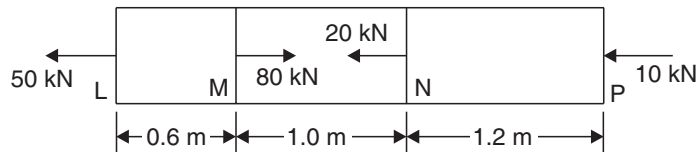
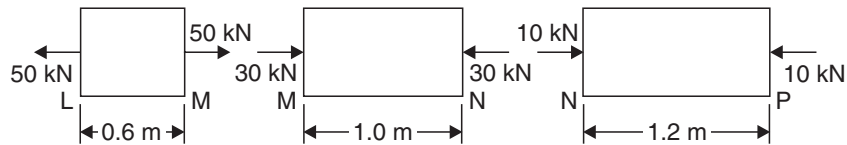

Fig. 12.17
Fig. 12.18
**Example 12.8.** A brass bar having cross-sectional area of  $1000 \text{ mm}^2$  is subjected to axial forces shown in Fig. 12.17. Find the total elongation of the bar. Modulus of elasticity of brass =  $100 \text{ GN/m}^2$ .
**Sol.** Refer to Fig. 12.17. The loading of three different portions  $LM$ ,  $MN$  and  $NP$  is shown separately in the Fig. 12.18. It may be noted that portion  $LM$  is under the tensile force  $50 \text{ kN}$  to the left, and to the right of it, there is again an effective force  $50 \text{ kN}$  which is a resultant of three forces to its right